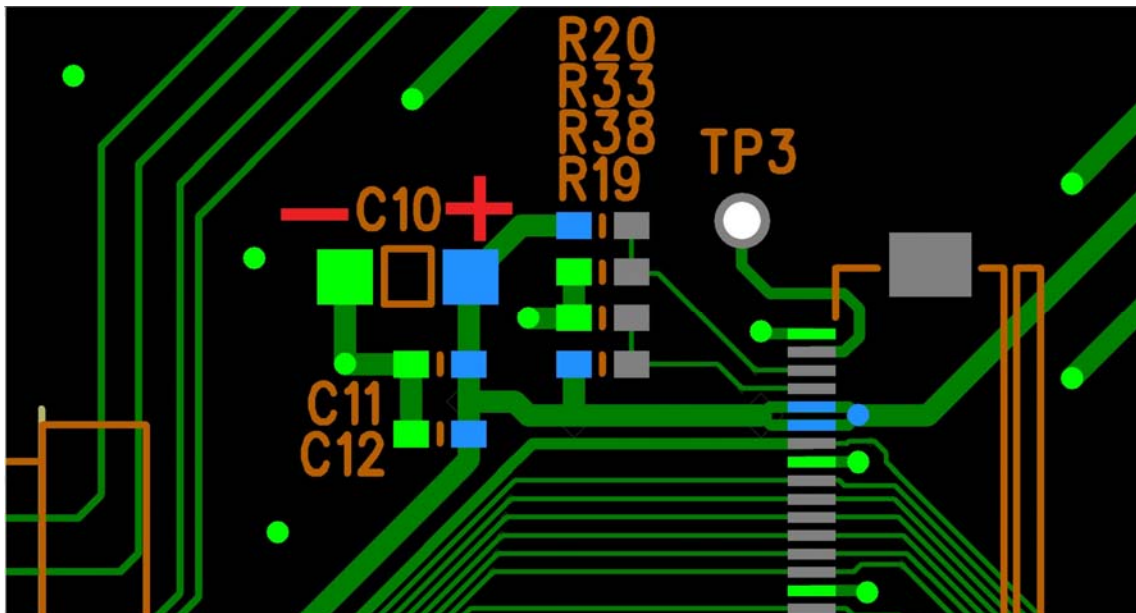

Figure 1 C10 Polarity
2. To avoid production delays we will use the Tantalum caps on the first production lot of LCDC 3-5 REV1. Diagrams to indicate cap polarity are provided in Figures 1 thru 3.